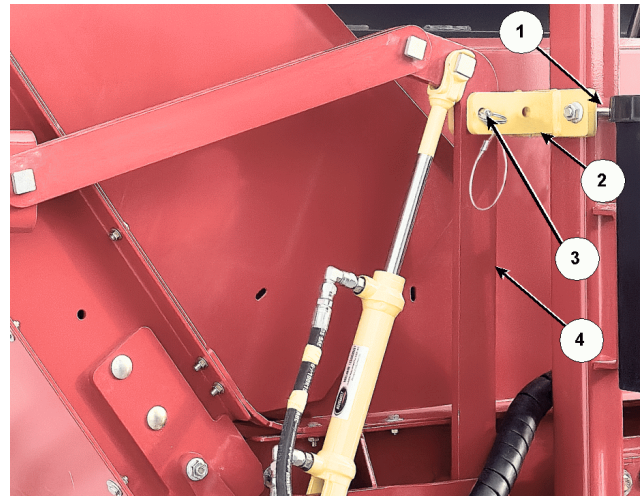

Figure 19: Install the transport lock
24. Install the transport lock on the left platform upright, see *Figure 19*. (Note: The right hand hydraulic folding conveyor is shown in the figure.)
- Loosely attach the U-bolt (1) and lock bracket (2) to the platform upright.
- Insert the lock pin (3) through the lock bracket and into the hydraulic fold arm (4).
- Secure the U-bolt (1) and lock bracket (2) in place using flange lock nuts.